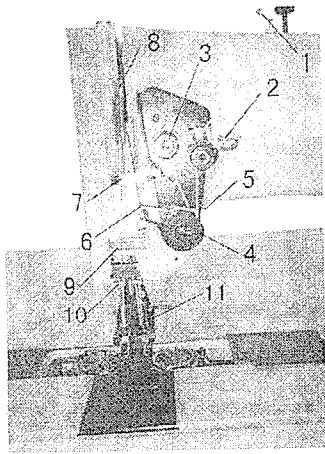

Fig.14
9. THREADING THE NEEDLE (Figs. 14 & 15)